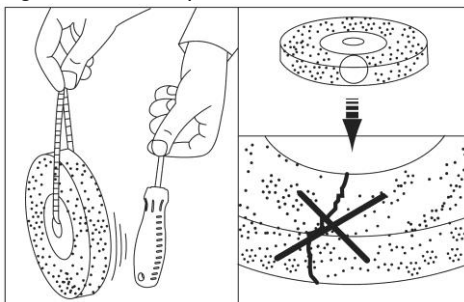

Fig.5
4.Place a new grinding disk on the spindle. Before doing so, ensure that the grinding disk is undamaged and that it meets the technical requirements of this double grinder. Carry out a sound test. Faultless grinding wheels will make a clear sound when struck gently with a plastic hammer (or piece of wood) (Fig.5).
5.Put the tension flange (8) back on the spindle and secure with the adjusting nut.5.